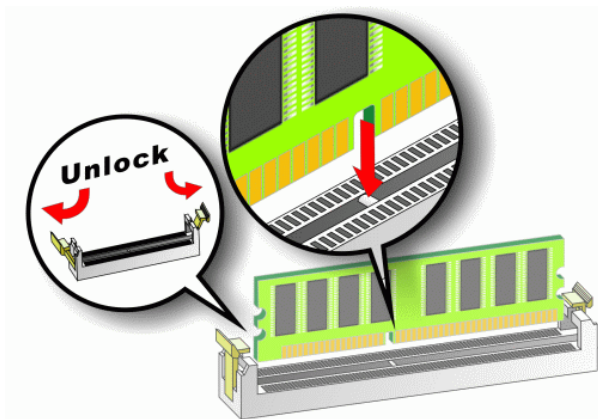

Figure 0-7: Installing a DIMM
To install a DIMM into a DIMM socket, please follow the steps below and refer to **Figure 0-7**.
- Step 1: Open the DIMM socket handles.** The DIMM socket has two handles that secure the DIMM into the socket. Before the DIMM can be inserted into the socket, the handles must be opened. See **Figure 0-7**.
- Step 2: Align the DIMM with the socket.** The DIMM must be oriented in such a way that the notch in the middle of the DIMM must be aligned with the plastic bridge in the socket. See **Figure 0-7**.
- Step 3: Insert the DIMM.** Once properly aligned, the DIMM can be inserted into the socket. As the DIMM is inserted, the white handles on the side of the socket will close automatically and secure the DIMM to the socket. See **Figure 0-7**.